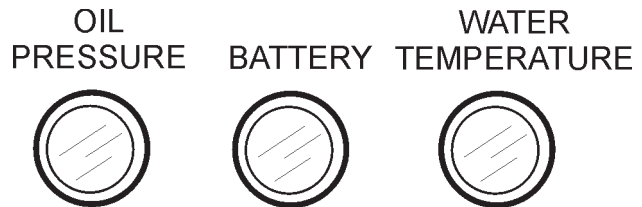

Figure 23. Control Box Status Lamps
6. Verify that the **oil pressure**, **battery** and **water temperature** status lamps (Figure 23) are all **OFF**. If any of these lamps are **ON**, stop the engine and correct the problem.